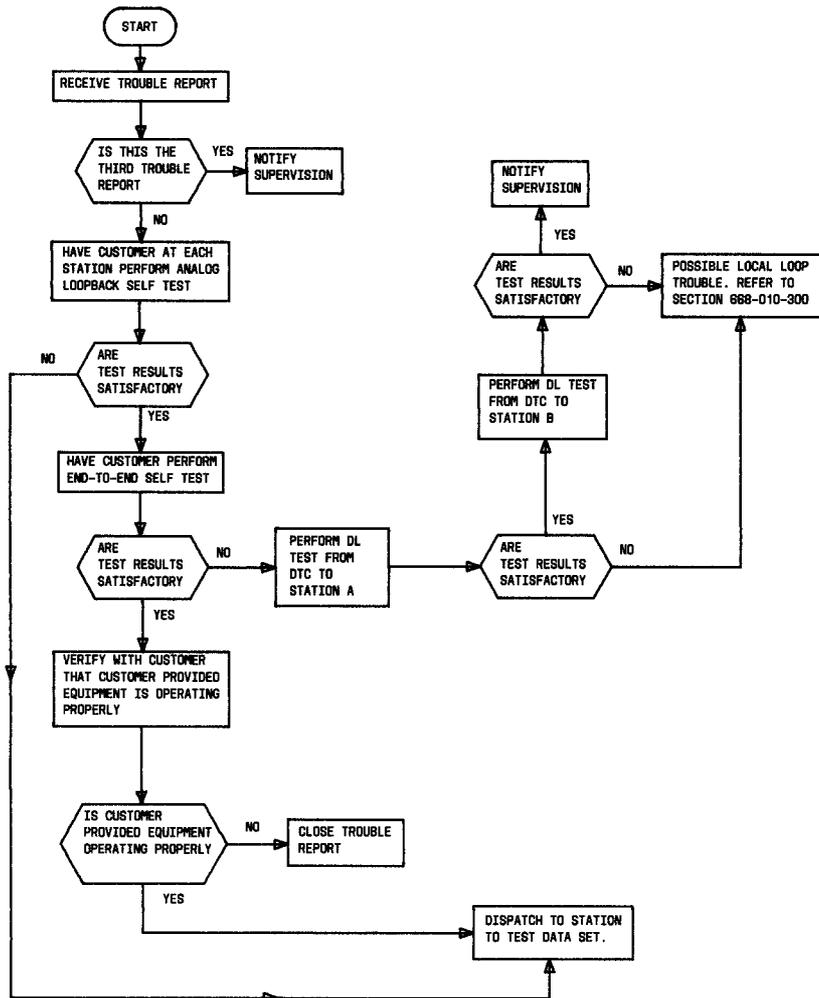

Fig. 3—Clearing Trouble Report
**3.02** When a trouble report is received, the DTC is responsible for isolating the trouble to the data set or transmission facility. The procedure for doing this is shown in Fig. 3.